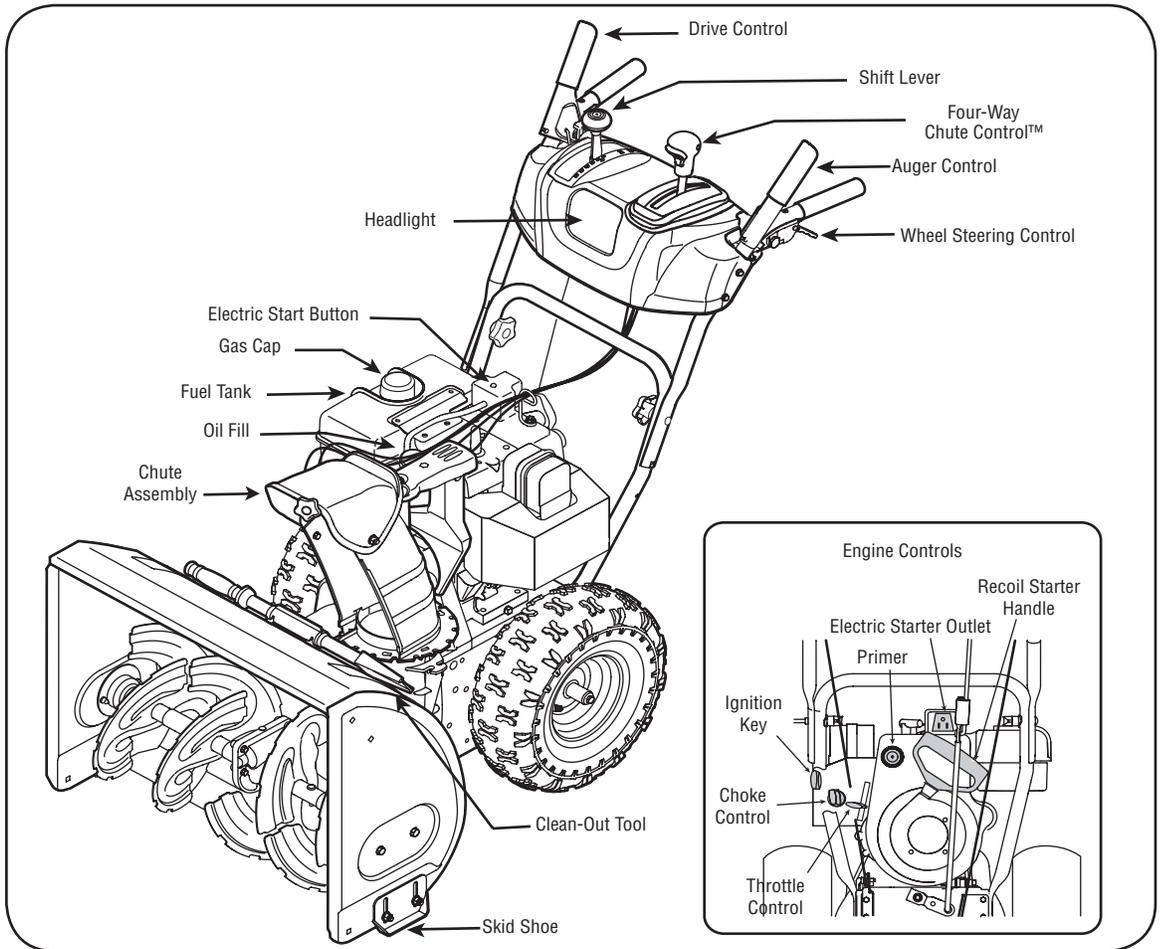

Figure 8
3. To turn the unit left or right, squeeze the respective wheel steering control. See Figure 8.